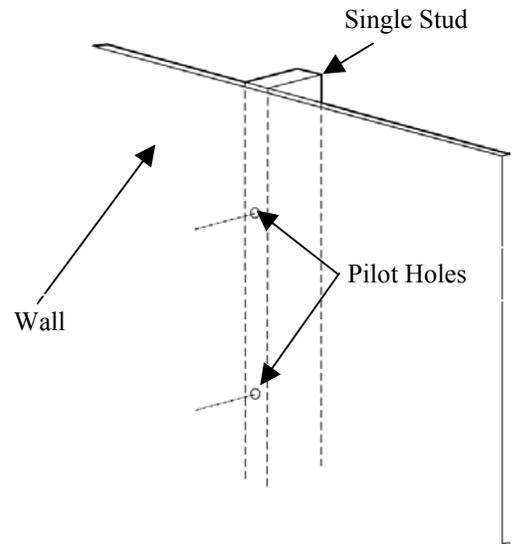
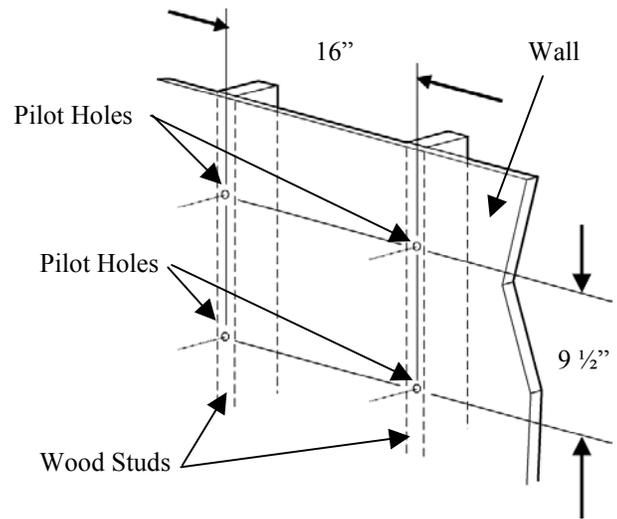
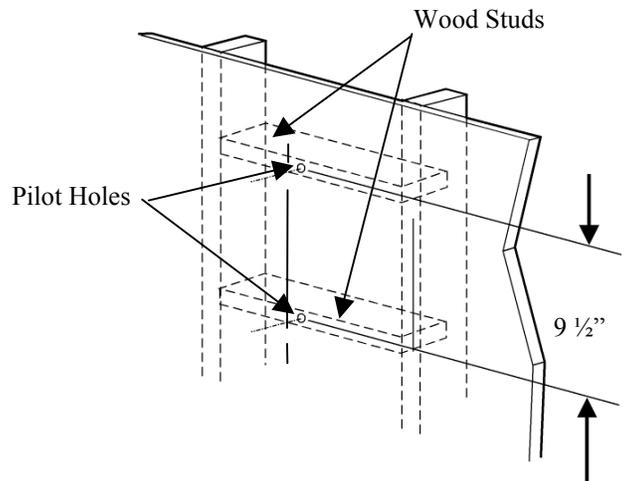

Figure 2. Single Stud Pilot Hole location
Figure 3. Vertical Dual Stud / Masonry Pilot Hole Location
Figure 4. Horizontal Dual Stud Pilot Hole Location
3. Identify appropriate mounting-hole pattern. See Figure 2, Figure 3, and Figure 4 to determine appropriate mounting hole pattern for the framework identified.
NOTE: The MSP-MS can be mounted using either a two, or four mounting-hole pattern depending upon available framework (see Figure 2, Figure 3, and Figure 4).
4. Locate and mark locations of all mounting holes making certain that marks are on center of all studs (see Figure 2, Figure 3, and Figure 4).